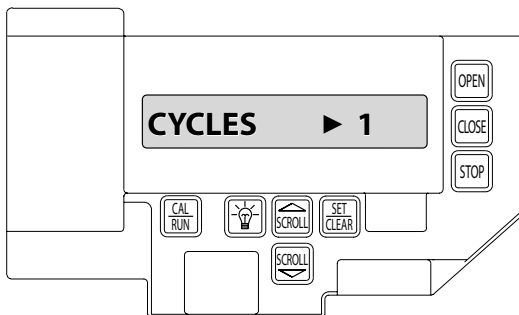

Fig. 7
- 2) Press SCROLL until display reads "CYCLES>1,2,3 etc. where the number is the number of open/close cycles the operator has performed. Fig. 7